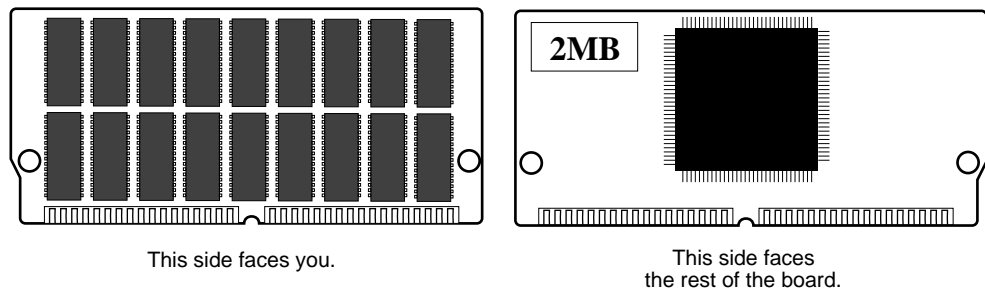

Figure 3-6 Orienting Yourself to the IRIS Indigo R3000 SIMM
- Using both hands, grasp the top of the SIMM so the side with the small chips faces you, as shown in Figure 3-6.